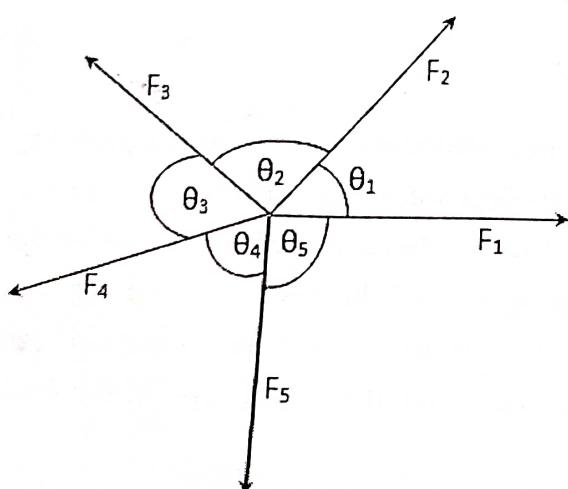
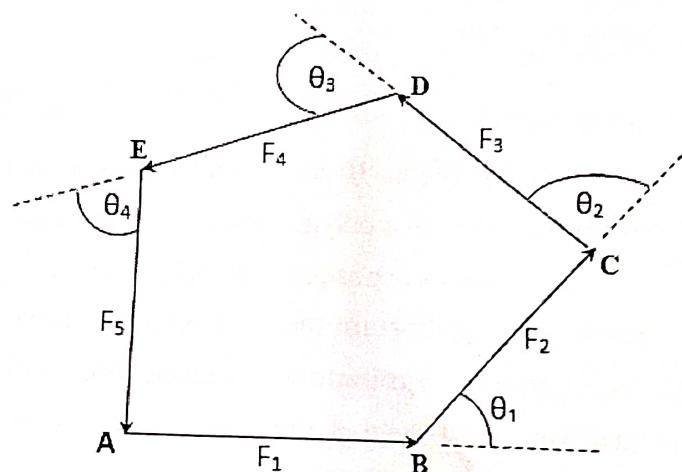

Figure 2: Force diagram
Figure 3: Force polygon
Law of Force polygon: If more than two forces are acting on a body and if they can be represented by consecutive sides of a polygon taken in order then their resultant will be represented by closing side of polygon taken in opposite order. As shown in figure 2, total five forces are acting at a point. If the system is in equilibrium then the resultant force of the system will be zero. If force polygon is drawn then the magnitude of resultant force will be zero. This means tail of first force and head of last force will meet at the same point. Force polygon has been drawn in figure for the force system as shown in figure 2.
Force polygon can be drawn for coplanar concurrent force system, if more than two forces are acting on a body. It can be started from any one force acting on a body. Draw a line of for F_1 acting on a body. It can be started from any one force acting on a body. This line should be parallel to force F_1 and the (equivalent length in cm) at a point A. This line should be parallel to force F_1 and the magnitude will be equivalent length of Force. All the forces acting on body are represented in the force diagram in terms of equivalent length. Draw second force parallel to F_2 in such a way so that the tail end of next force is joined at the head of previous force (F_1). Similarly draw all forces in the same way. In doing so, the head of last force will touch the tail of first force. Figure 2 shows a concurrent coplanar force system in which five forces are acting and the system is in equilibrium. Using these forces a force polygon has been drawn as shown in fig. 3. As all the forces are to be plotted graphically; choose a suitable scale to represent a force. For example: $500\text{N} = 1\text{ cm}$, i.e. 1 cm length will be used to represent a force of 500N . Follow the following steps to draw a force polygon:
- Similarly, draw the force F_3, F_4 and F_5 as per step (ii). In doing so, a polygon is formed as shown in fig 3. The head end of last force will meet the tail end of first force.